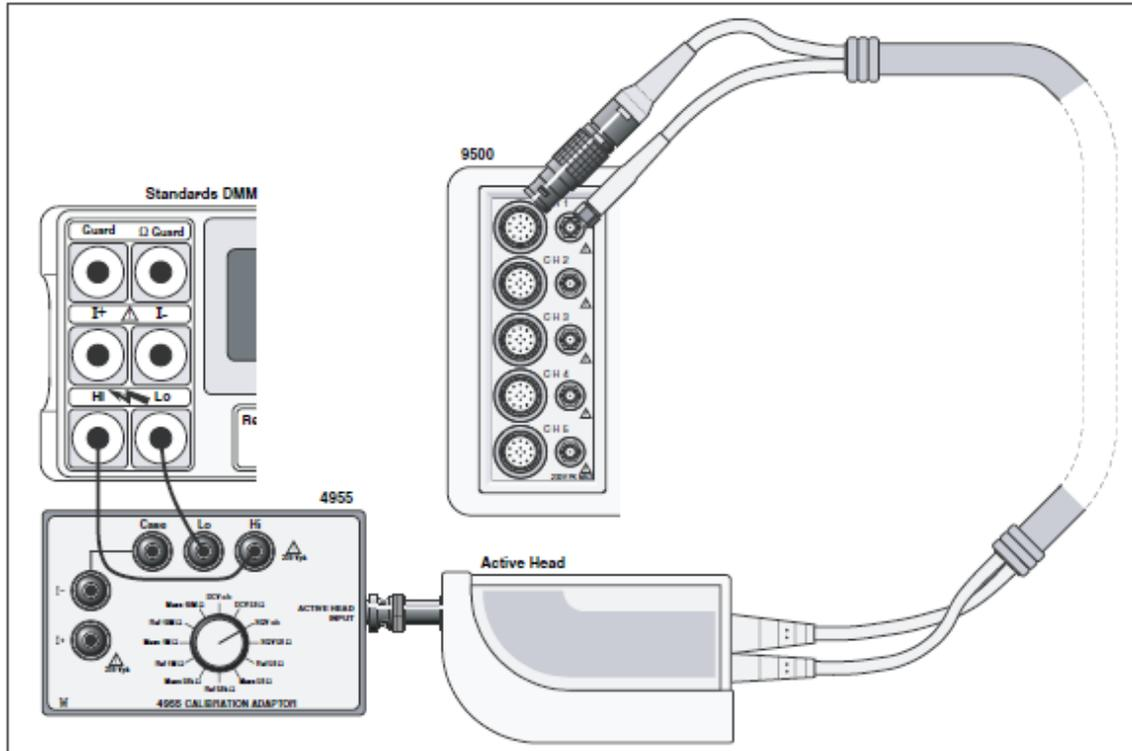

Figure 4. DC/Square; Square Voltage Verification — Interconnections
1. Connections: Ensure that the 9500B is connected to the DMM as shown in Figure 4, or via a similar BNC-4mm adaptor, and that both instruments are powered on and warmed up.
1. Connections: Ensure that the 9500B is connected to the DMM as shown in Figure 4, or via a similar BNC-4 mm adaptor, and that both instruments are powered on and warmed up.